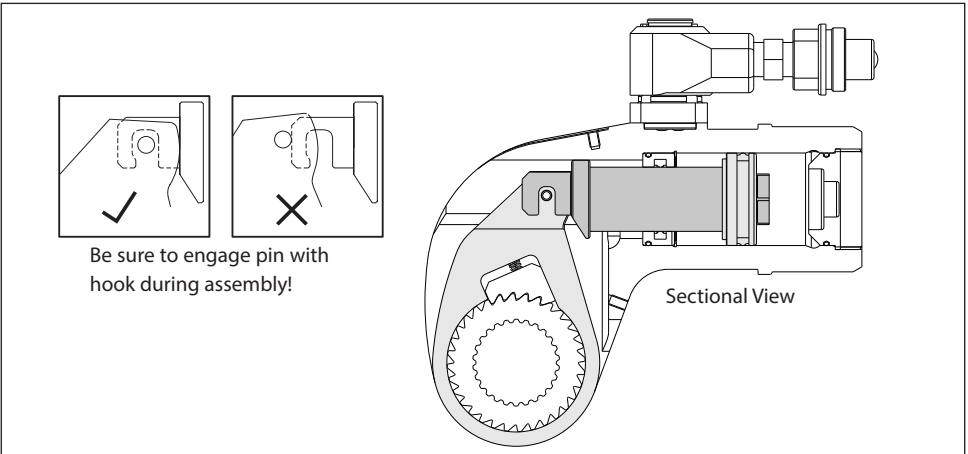

Fig. 20
5.3.6 - Piston Reassembly and Installation (Fig. 20 and 22)